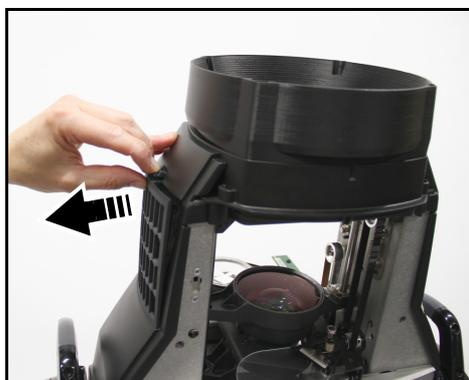

Figure 11: Releasing head air filter
3. See Figure 11 (MAC Ultra Performance model shown). Unclip and remove the two air filter covers, one on each side of the head.